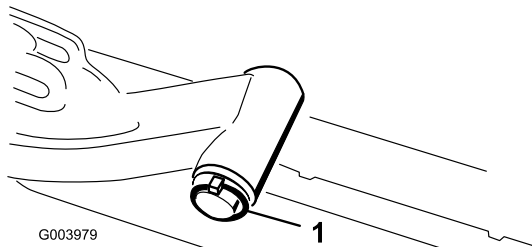

Figure 11
- A. Remove the lynch pin and washer securing the lift-arm-pivot shaft to the lift arm and slide the lift-arm-pivot shaft out of the lift arm (Figure 11).
- C. Insert the lift-arm shaft into the lift arm and secure it with the washer and lynch pin (Figure 11).